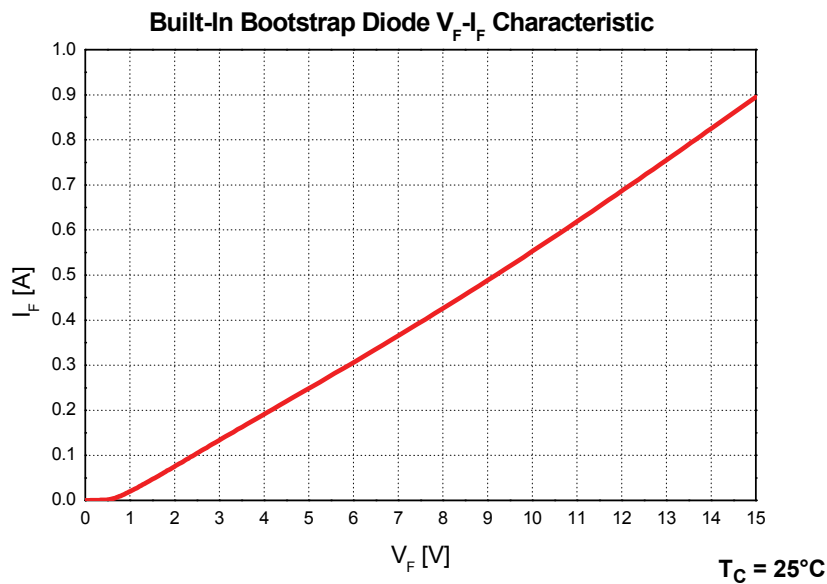

Figure 3. Built-In Bootstrap Diode Characteristics (Typical)
3. Source terminal of each low-side MOSFET is not connected to supply ground or bias voltage ground inside Motion SPM® 5 product. External connections should be made as indicated in Figure 3.